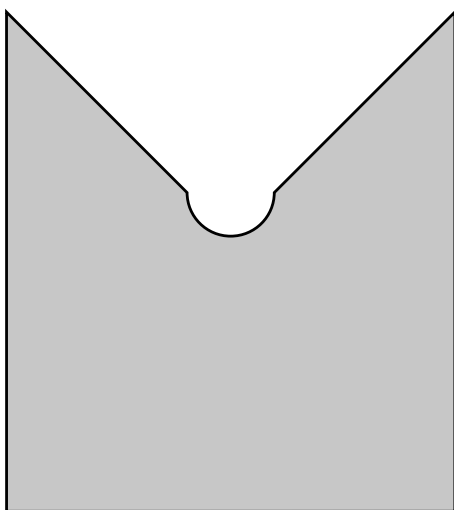

Figure 4: Tool template for silicone joint, scale 1:1
- 9 Remove excess silicone adhesive from the outer vertical corners with a tool made of cardboard as shown in Figure 4. Smooth out the joints on the inside with a finger, wet with water or soapy water.